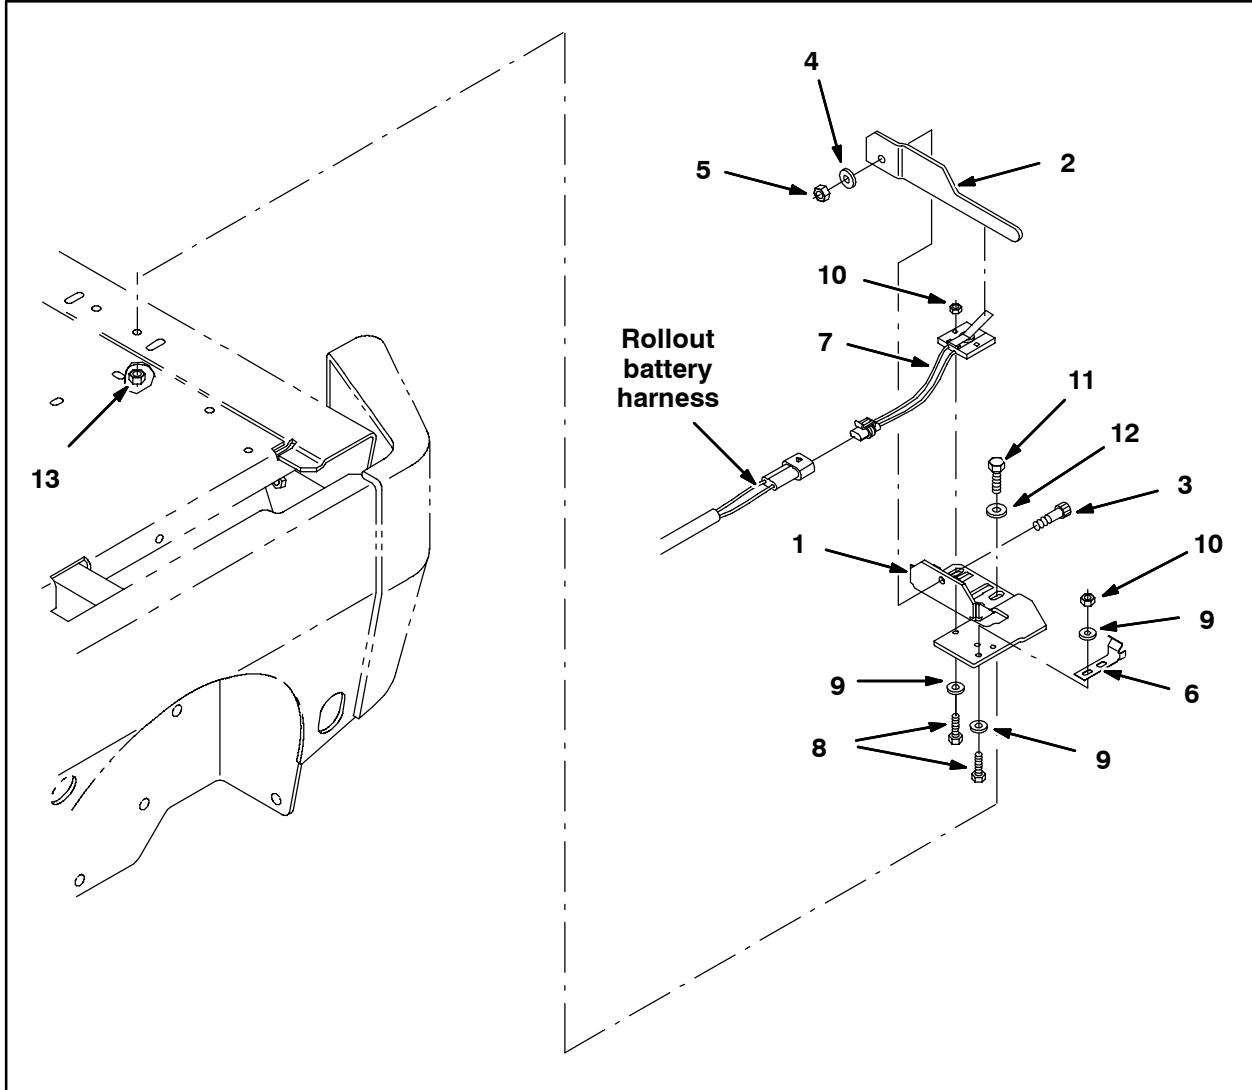

FIG. 2
*NOTE: Refer to Fig. 2 for orientation and locations of parts assembled in Step 1 through Step 5.*
1. Use four hex screws (11), four washers (12), and four hex nuts (13) to install the rollout lock assembly onto the machine.
2. Attach the switch limit (7) to the rollout battery harness.